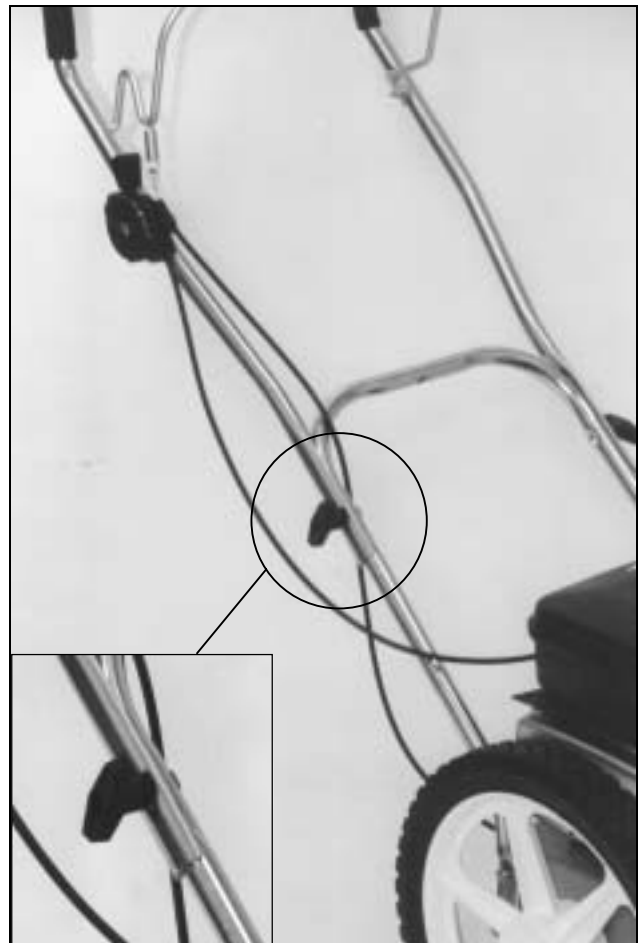

Figure 9
1. Making sure the control cables are over the lower handlebar, position the upper handlebar outside the lower handlebar (*Figure 9*). The ends of the upper handlebar are cupped half-circles and fit on the outside of the lower handlebar (*inset*). With the holes aligned, insert one of the two round-headed 1-1/2" handlebar bolts from the inside facing out.